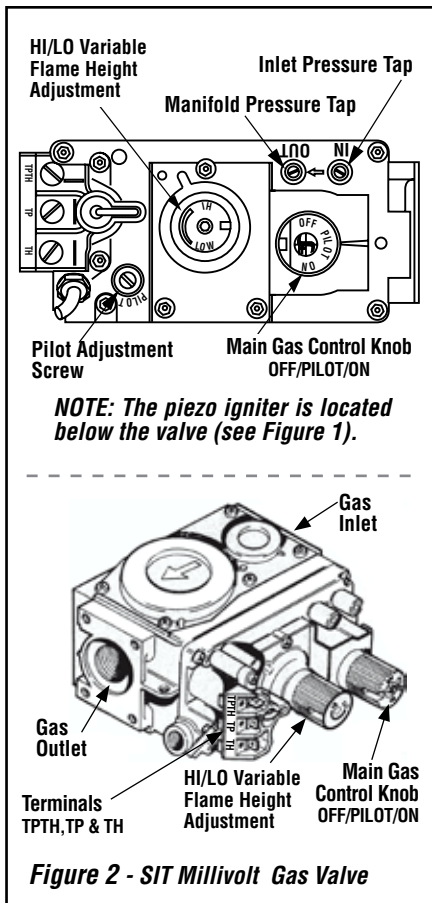
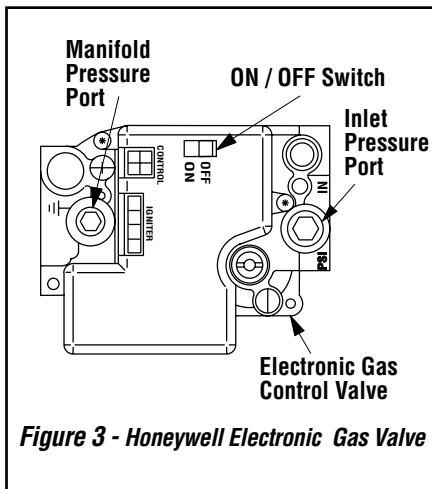

Figure 2 - SIT Millivolt Gas Valve
Figure 3 - Honeywell Electronic Gas Valve
Test gauge connections are provided on the front of the millivolt gas control valve, identified IN for the inlet and OUT for the manifold side (see **Figure 2** on **Page 9**). A 1/8" NPT Test gauge connection is provided at the inlet and outlet side of the electronic gas control valve (see **Figure 3** on **Page 9**).
**Millivolt Appliances** - Appliances with Millivolt systems will be fitted with the gas control valve shown in **Figure 2**.
**Electronic Appliances** - Appliances with electronic systems will be fitted with the electronic valve shown in **Figure 3**.
All Millivolt appliances are equipped with a variable gas control valve. Flame height for these models may be adjusted through a range between fixed low and high settings while the appliance is in operation. Adjust the flame height as desired after lighting the appliance by rotating the variable adjustment control knob (HI/LO) located on the front of the valve (refer to **Figure 2**).